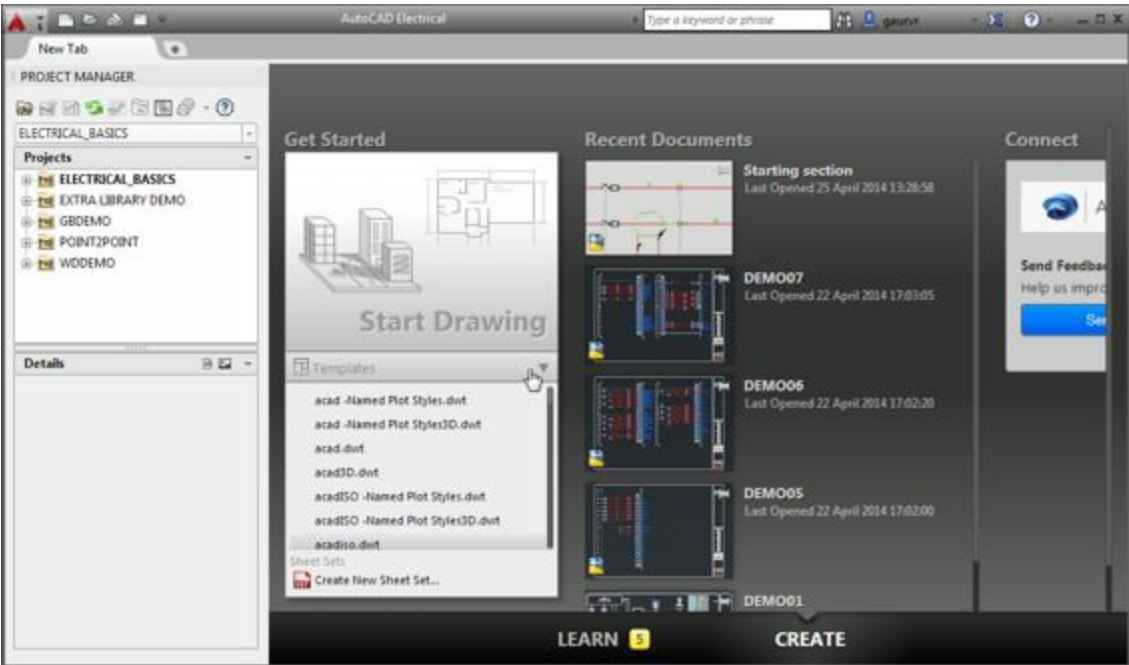

Figure-50. Templates of drawings
- Start AutoCAD Electrical and Click on the down arrow below Start Drawing button. A list of templates will be displayed; refer to Figure-50.